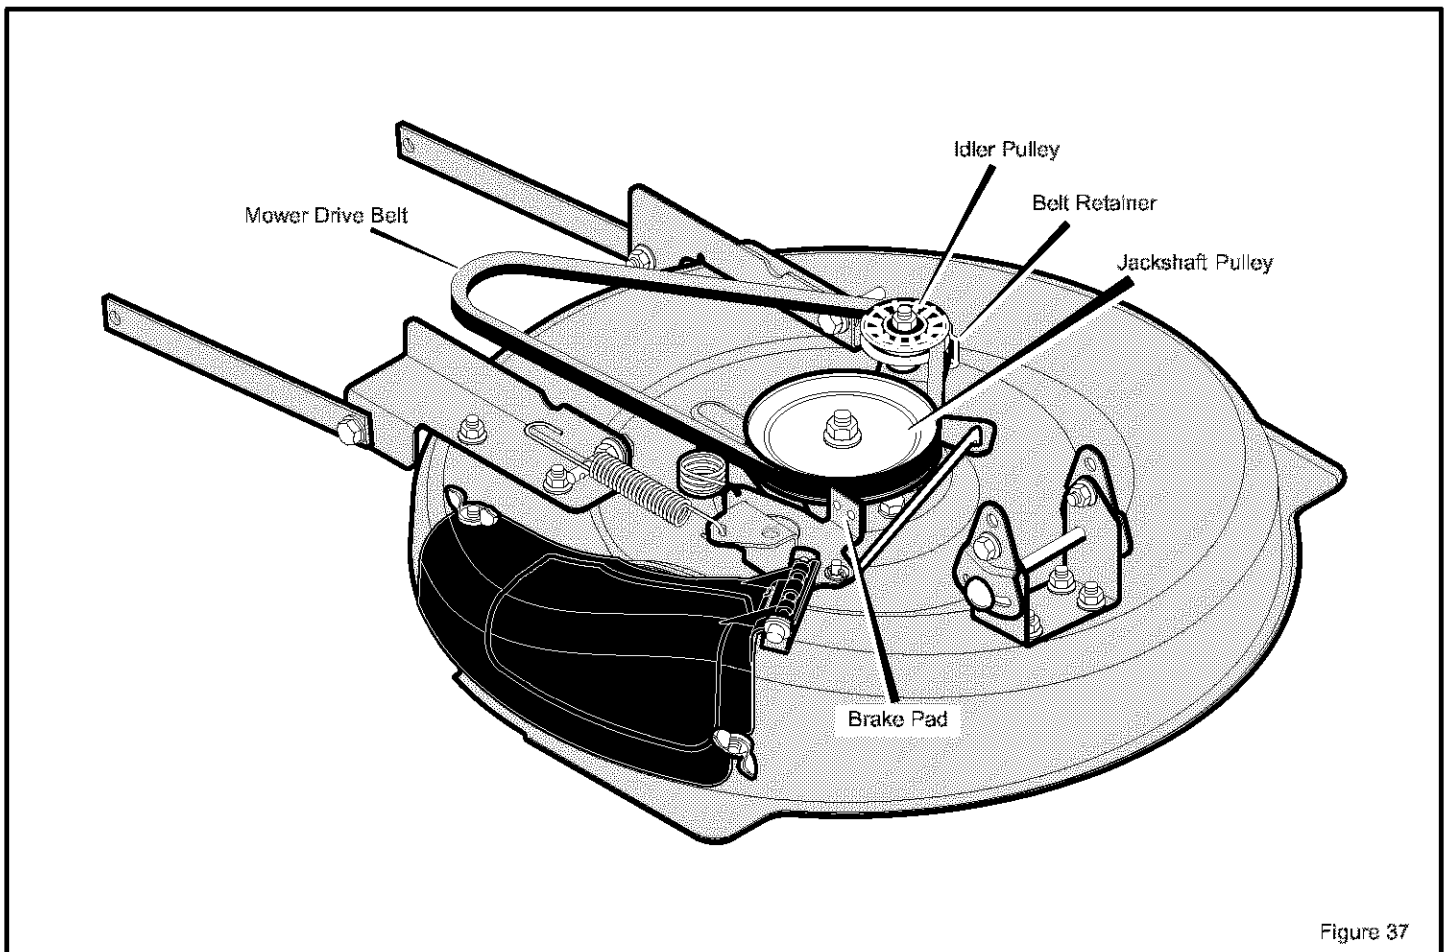

Figure 37
2. Pull the **belt retainer** away from the **idler pulley** and remove the **mower drive belt** (Figure 37).